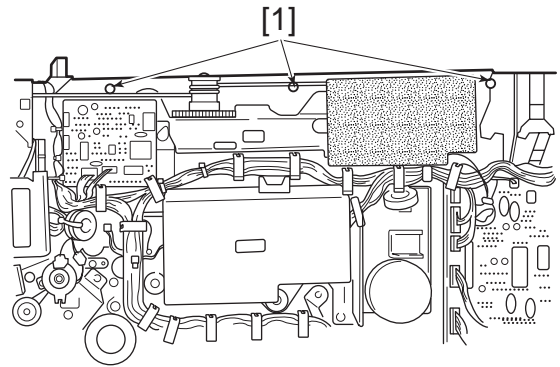

Figure 3-402
- 2) Remove the three screws [1] shown in Figure 3-402, and detach the upper frame.